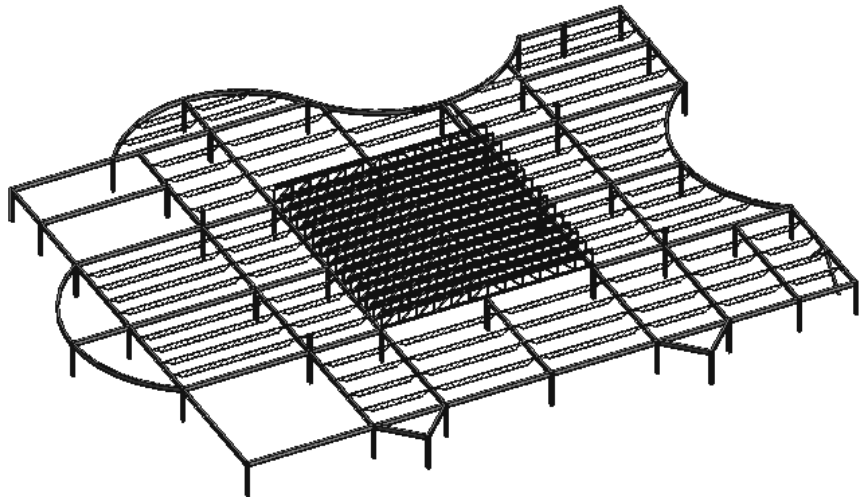

Figure 7–69
10. Open the **3D Views: Roof and Skylight** view to see the trusses, as shown in Figure 7–69.